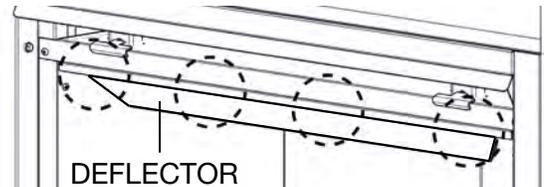

Fig. 1
- C.** To ease assembly, remove the 4 hex head screws, securing the deflector from inside the top front of the firebox (**Fig. 1**).